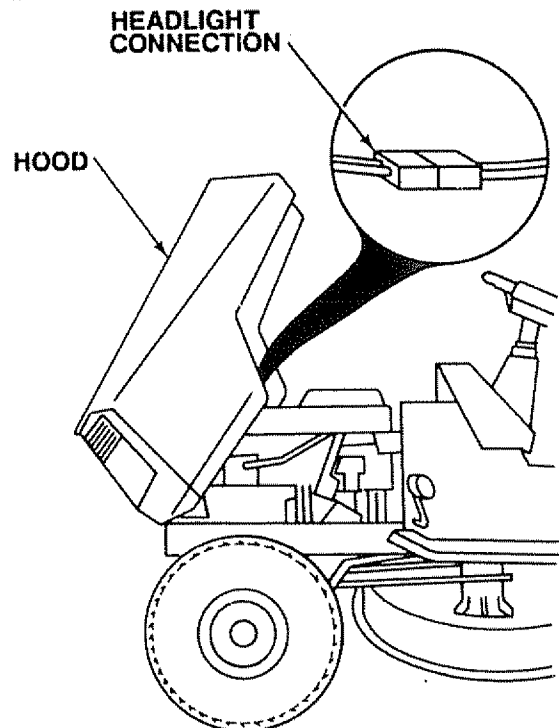

FIGURE 28
- Disconnect headlight connection (Fig. 28).